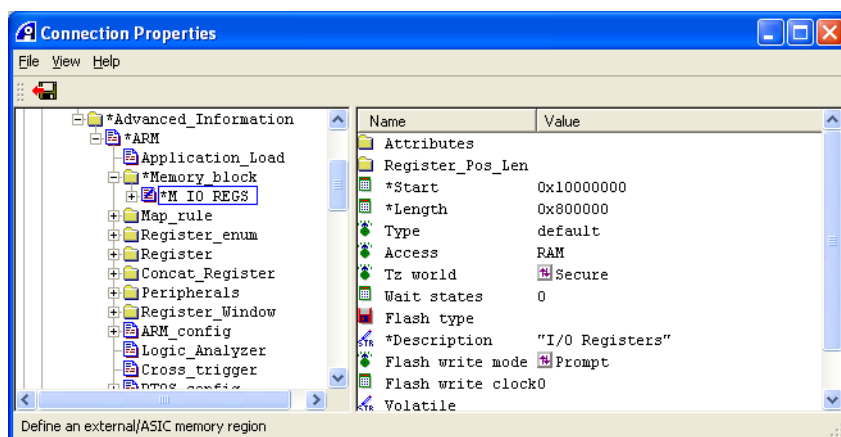

Figure 5-9 Configuring the M_IO_REGS custom register
- d. Set Description to **I/O Registers**, shown in Figure 5-9 on page 5-16.